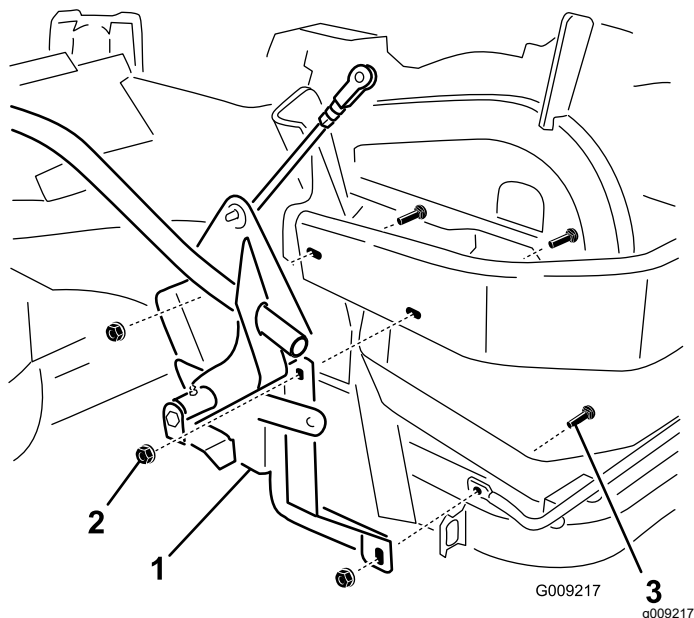

Figure 7
3. Install the handle and bracket assembly to the side of the machine with 3 carriage bolts (3/8 x 1-1/4 inches) and 3 flange nuts (large flange-3/8 inch) as shown in Figure 7.